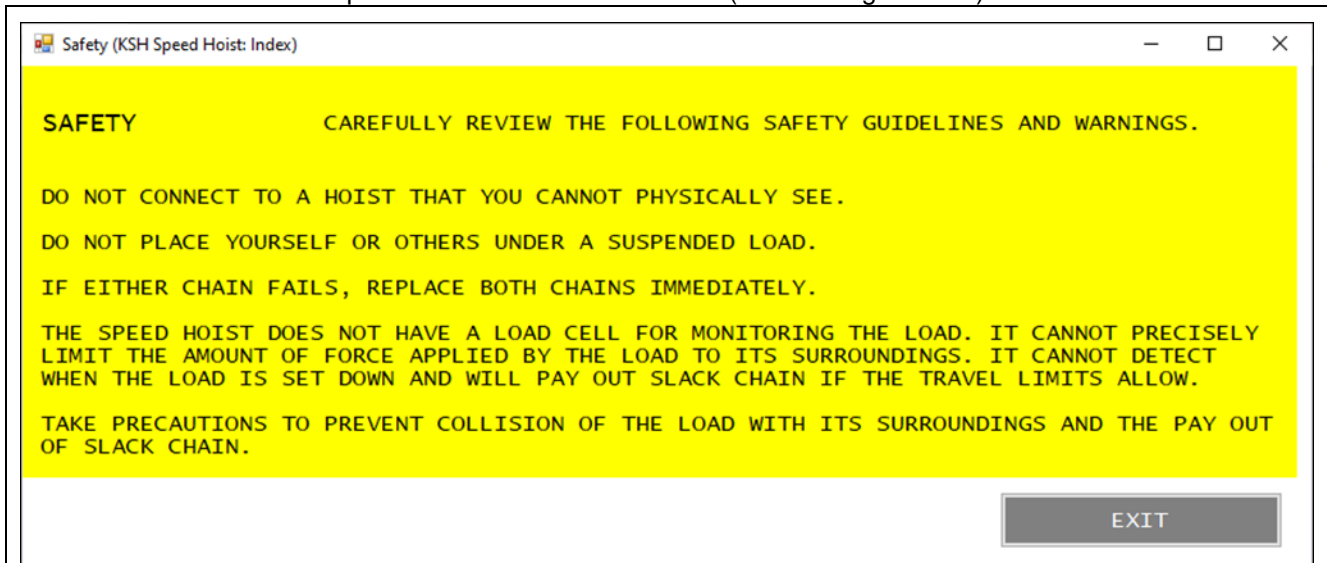

Figure 5-25
- Lower) There are (5) five buttons that will display different overview screens for the Servo Hoist.
Step 3. Review the information on this screen. Anyone who will be operating or doing maintenance on the hoist is required to review this information. (Refer to Figure 5-25)